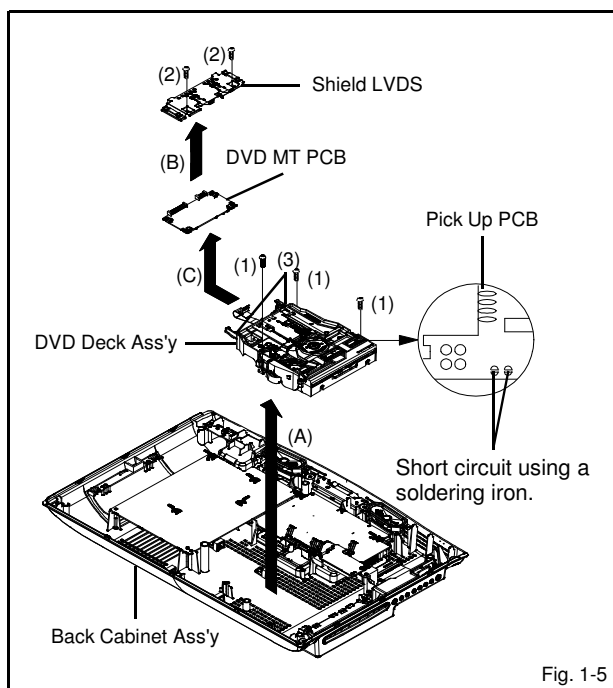

Fig. 1-5
1-5: DVD MT PCB and DVD DECK (Refer to Fig. 1-5)
2. Short circuit the position shown in Fig. 1-5 using a soldering iron. If you remove the DVD Deck with no soldering, the Laser may be damaged.
4. Remove the 3 screws (1).
5. Remove the DVD DECK Ass'y in the direction of arrow (A).
6. Remove the 2 screws (2).
7. Remove the Shield LVDS in the direction of arrow (B).
8. Unlock the 2 supports (3).
9. Remove the DVD MT PCB in the direction of arrow (C).